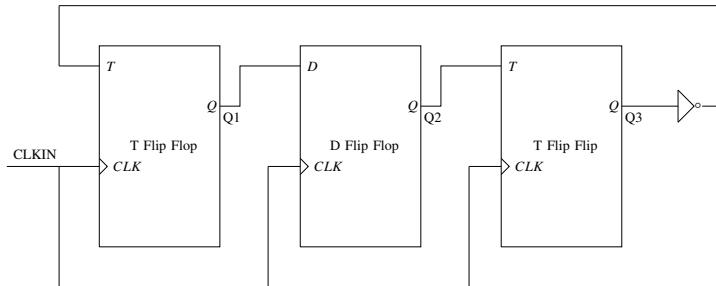

Fig. 5.8
8. Consider a sequential digital circuit consisting of T flip-flops and D flip-flops as shown in Fig. 5.8. CLKIN is the clock input to the circuit. At the beginning,  $Q_1, Q_2$  and  $Q_3$  have values 0, 1 and 1, respectively. Which of the given values of  $(Q_1, Q_2, Q_3)$  can NEVER be obtained with this digital circuit? (GATE CS 2023)